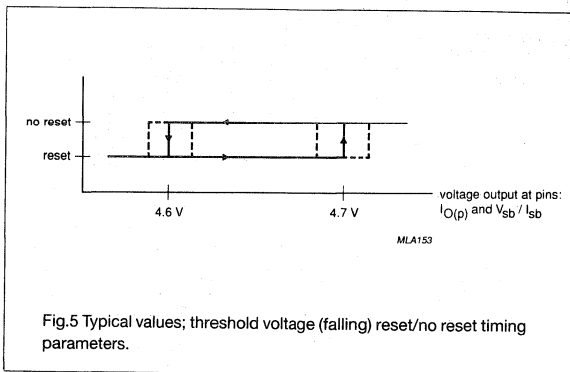

Fig.5 Typical values; threshold voltage (falling) reset/no reset timing parameters.
$V_{sb}/I_{sb}$ )  $< 4.6 V$ , the watchdog output stage is triggered by a signal from the voltage sense stages and forces a static watchdog reset output pulse ( $\overline{WRO}/WRO$ ) when both the power and standby output voltage rise above 4.7 V. The duration of the pulse width is determined by the value of external capacitor C7 (see Figs 5 and 18). To operate with external series control transistor, the watchdog function must first be switched on by the enable input (EN).